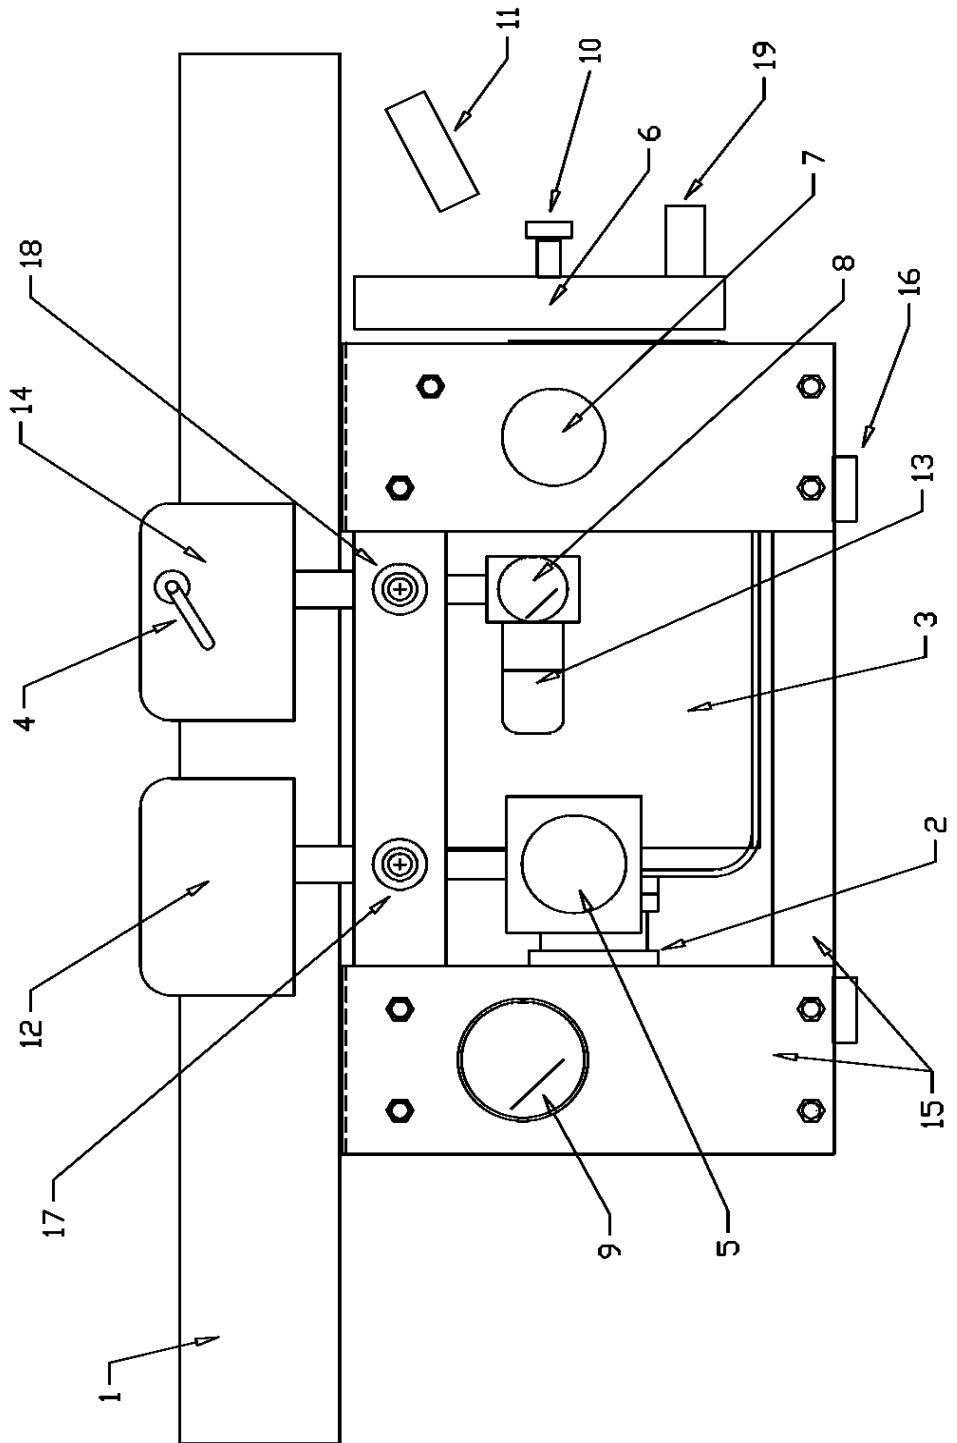

Figure 1. TSM System Configuration
2.0 SYSTEM ITEM IDENTIFICATION (See Figure 1)
2.1 SYSTEM ITEM DESCRIPTIONS (See Figure 1)